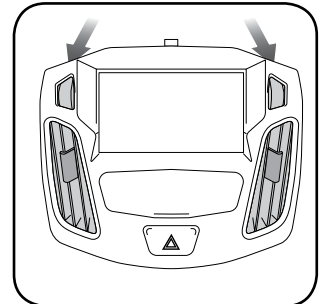

Fig. 2.4
4. Install the factory vents on the FOC1 kit. (Fig. 2.4)